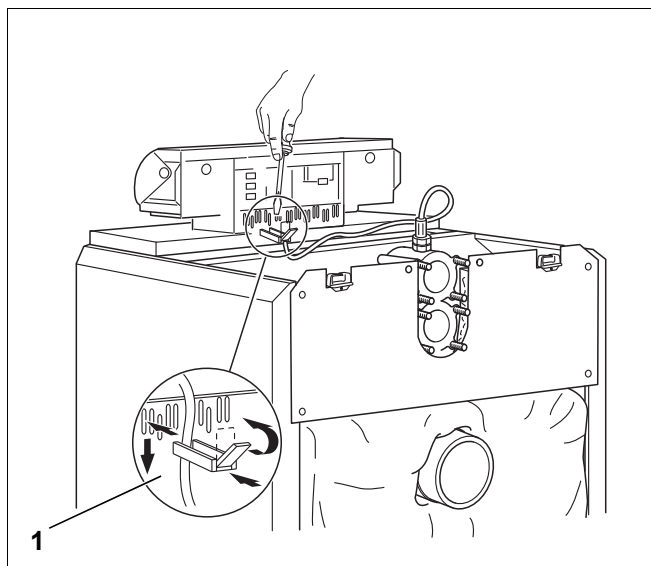

Fig. 47 Securing the electrical connection cables
- Insert cable clips with fitted cables into the clip frame and secure by pivoting the lever (Fig. 47, [1]).